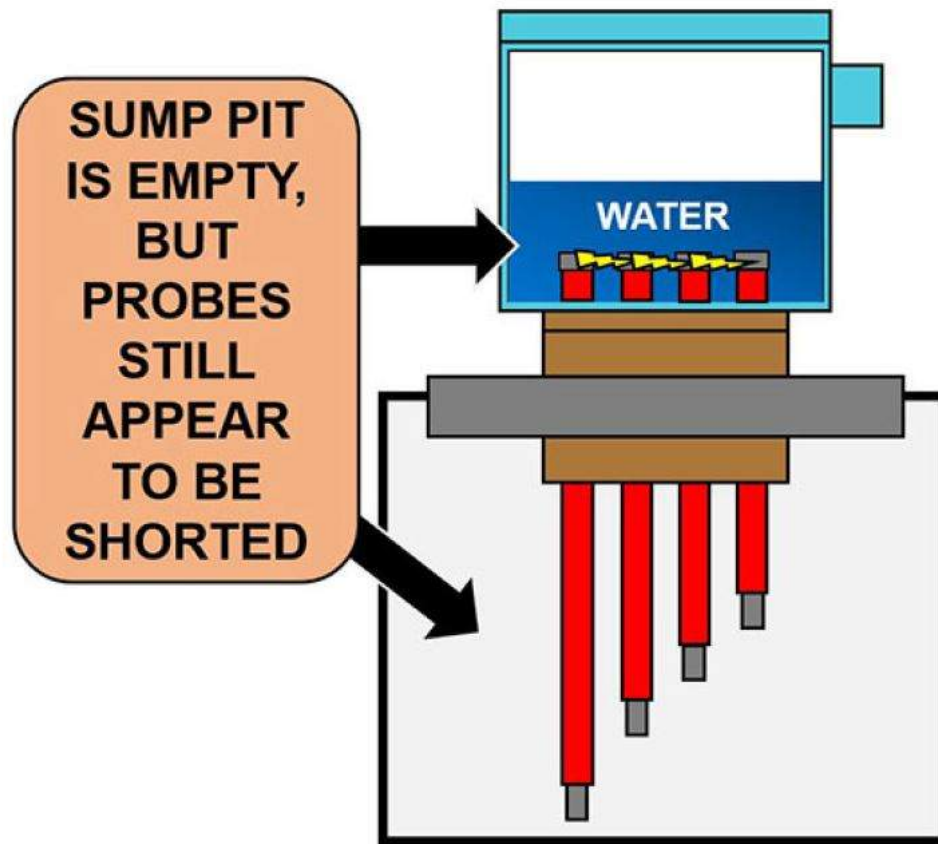

Figure 3-13. Probes Shorted by Water in Top of Probe Assembly (Wing 1).
2. If the launch tube has recently flooded, the small control box that all of the probes screw into may be full of water—this water will act the same as a full sump pit because it shorts all four probes together (fig 3-13).